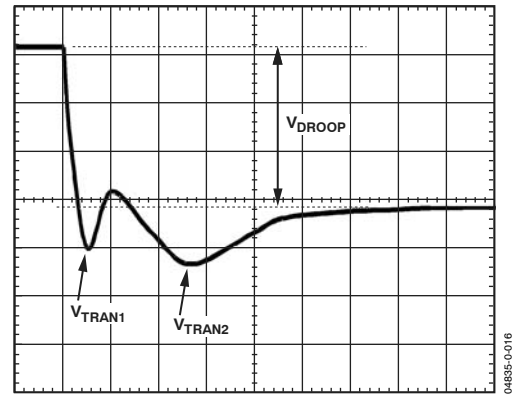
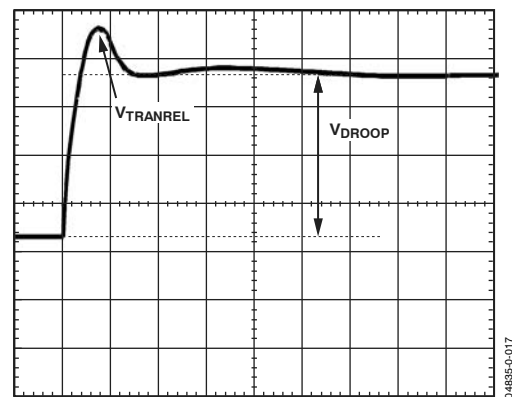

Figure 16. Transient Setting Waveform
Figure 17. Transient Setting Waveform
- With the dynamic load still set at the maximum step size, expand the scope time scale to see 2 μ s/div to 5 μ s/div. The waveform may have two overshoots and one minor undershoot (see Figure 16). Here, V_{DROOP} is the final desired value.
- For load release (see Figure 17), if $V_{TRANREL}$ is larger than V_{TRAN1} (see Figure 16), there is not enough output capacitance. Either more capacitance is needed, or the inductor values need to be smaller. (If inductors are changed, start the design again using the spreadsheet and this tuning procedure.)